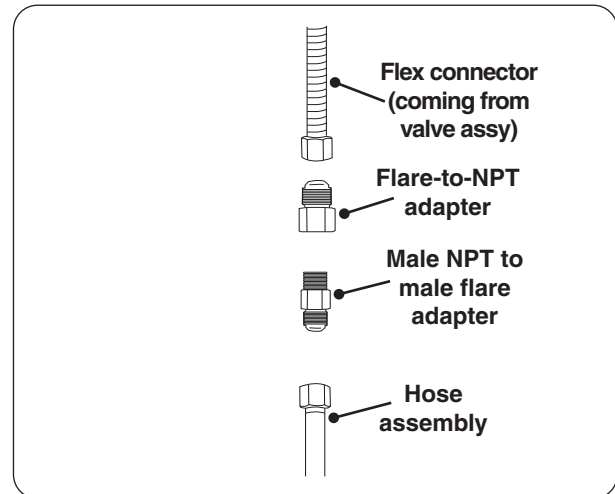

Fig. 28-1 Connecting flex to hose assy
1. Connect the L.P. regulator hose assembly (not included) to the flex connector that is coming off of the valve assembly (see Fig. 28-1).